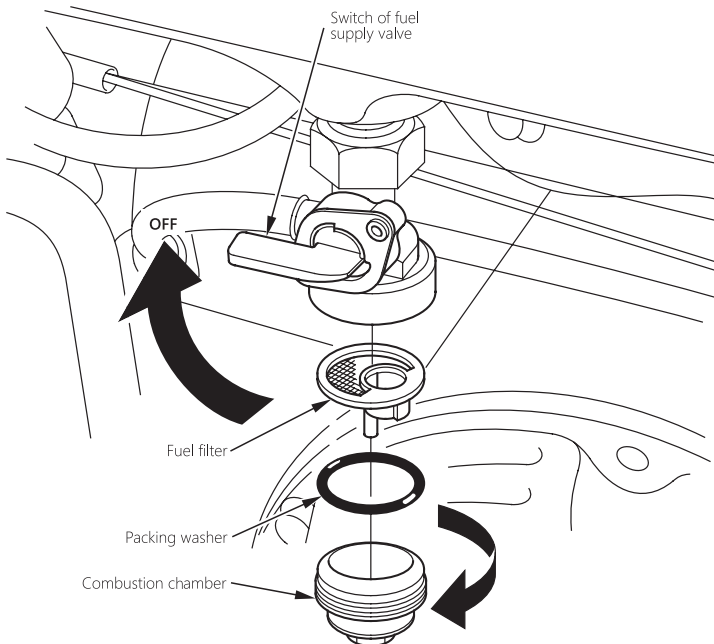

Fig. 11. Combustion chamber maintenance
- Turn the switch of fuel supply valve into position "OFF" (Fig. 11). Take off the combustion chamber, packing washer and fuel filter.